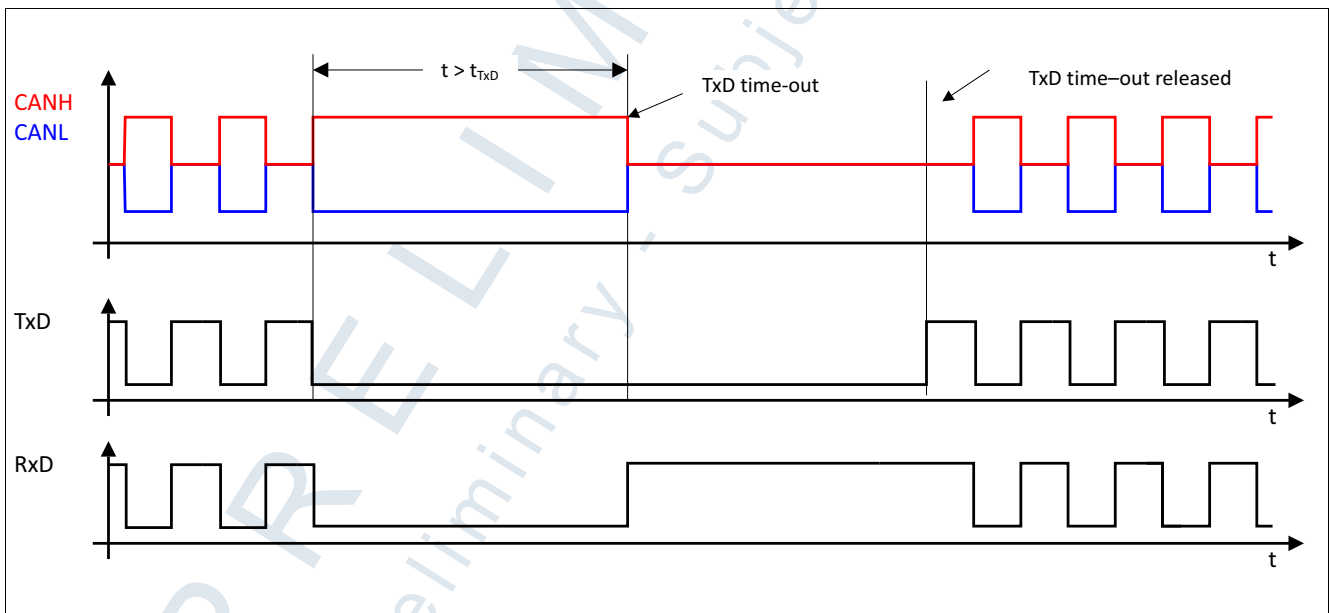

Figure 8 TxD time-out function
The TxD time-out feature protects the CAN bus against being permanently blocked in case the logical signal at the TxD pin is continuously “low”. A continuous “low” signal at the TxD pin might have its root cause in a locked-up microcontroller or in a short circuit on the printed circuit board, for example. In normal-operating mode, a logical “low” signal applied to the TxD pin for the time  $t > t_{TxD}$  triggers the TxD time-out feature and the IFX1051 disables the transmitter (see Figure 8). The receiver is still active and the data on the bus continues to be monitored by the RxD output pin.
**Figure 8** illustrates how the transmitter is deactivated and activated again. A permanent “low” signal on the TxD input pin activates the TxD time-out function and deactivates the transmitter. To release the transmitter after a TxD time-out event the IFX1051 requires a signal change on the TxD input pin from logical “low” to logical “high”.